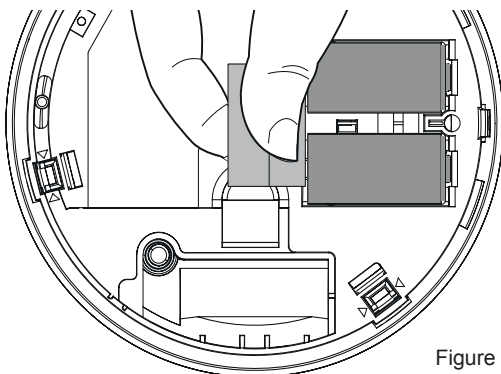

Figure 1
- Next remove the battery isolation strip from the battery compartment to power the Alarm (see Figure 1).